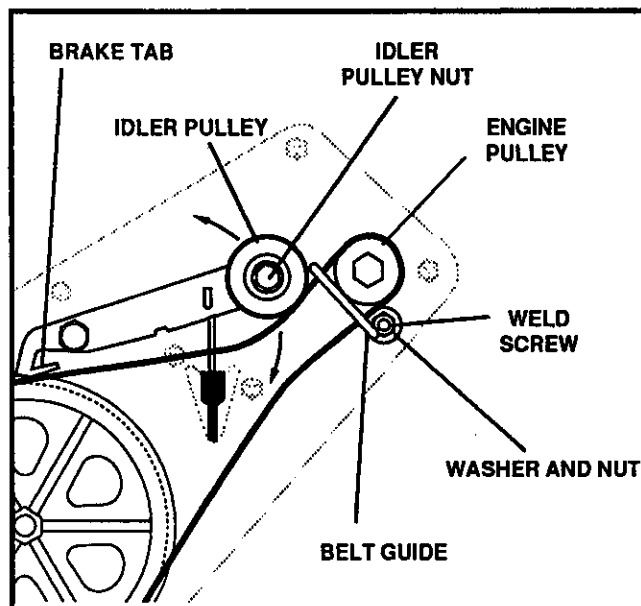

FIG. 4-SERV & ADJ
- Loosen but do not remove the nut on the idler pulley. (See FIG. 4-SERV & ADJ)
- Remove washer and nut from belt guide. (See FIG. 4-SERV & ADJ).